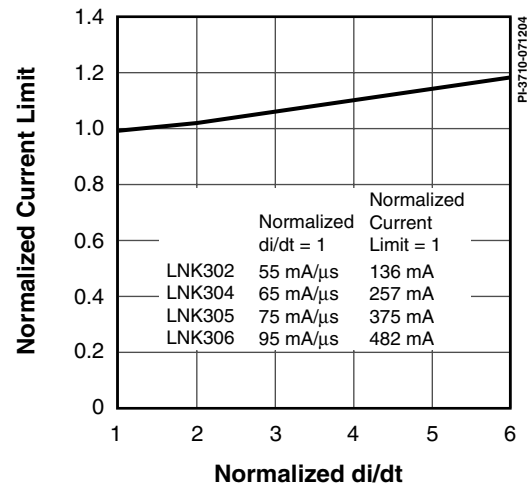

Figure 13. Current Limit vs. di/dt.
- For current limit at other di/dt values, refer to Figure 13.